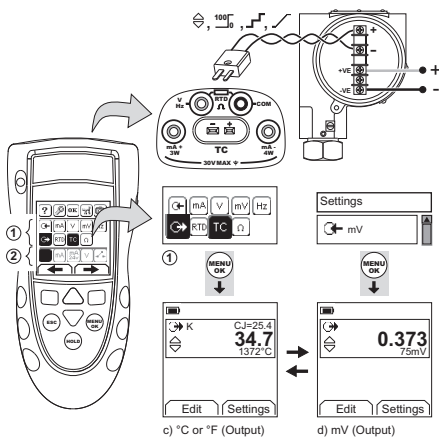

Figure 9: Example Configuration - To Measure/Simulate the Temperature (°C/°F) or mV Values of a TC
Attach the TC wires to the applicable TC mini-connector (Figure 9). The wider blade is the negative. Then attach the connector to the instrument.
- 1. Connect the instrument (Figure 9) and, if necessary, adjust the Set Up (Table 1).